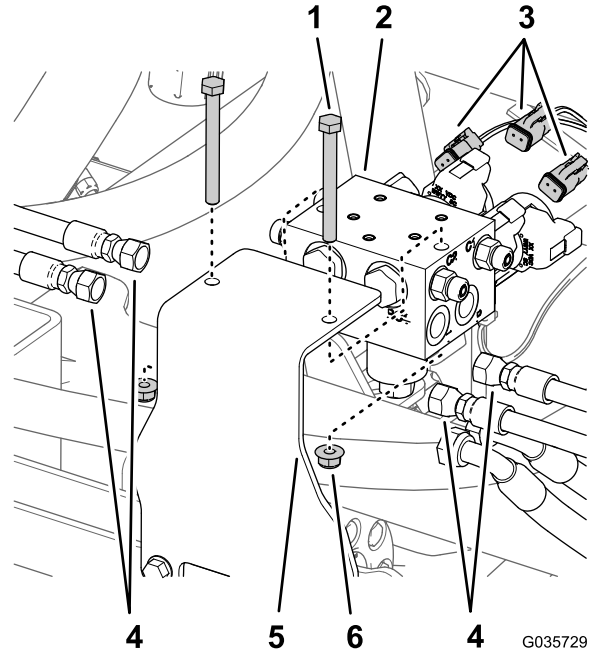

Figure 8
- Label all the hoses connected to the lift-cylinder manifold (ports C1, C2, C3, and C4), and disconnect them from the cylinder manifold (Figure 8).
- Disconnect the rear-wire harness connectors from the solenoids of the lift-cylinder manifold (Figure 8).
- Remove the lift-cylinder manifold from the mounting bracket by removing 2 bolts and 2 locknuts (Figure 8).